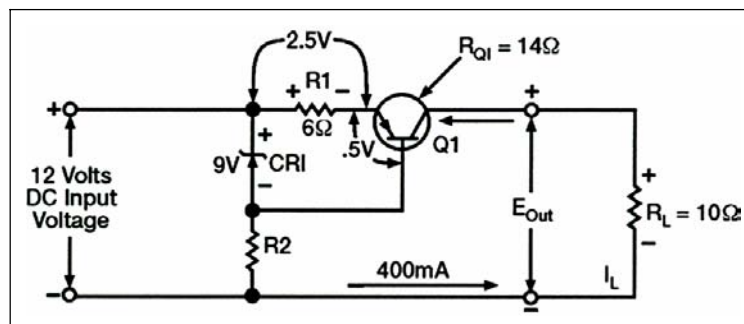

Figure 4-43. Current Voltage Regulator (With a Decrease in R_L)
4-119. Knowing about the basic current regulating circuitry will help you understand how the various components work to maintain the constant 400-milliampere output. Remember a decrease in load resistance causes a corresponding increase in current flow. Figure 4-43 shows that the load resistance R_L has dropped from 15 ohms to 10 ohms. This results in a larger voltage drop across R1 because of the increased current flow. The voltage drop has increased from 2.4 volts to 2.5 volts. Of course, the voltage drop across CR1 remains constant at 9 volts due to its regulating ability. Because of the increased voltage drop across R1, the forward bias on Q1 is now 0.5 volts. Since the forward bias of Q1 has decreased, the resistance of the transistor increases from 9 ohms to 14 ohms. Notice that the 5-ohm increase in resistance across the transistor corresponds to the 5-ohm decrease in the load resistance. Therefore, the total resistance around the outside loop of the circuit remains constant. Since the circuit is a current regulator, you know that output voltages will vary as the regulator maintains a constant current output. In Figure 4-43, the voltage output is reduced to 4 volts, which is computed by multiplying current (I) times resistance (R) ($400 \text{ mA} \times 10 \text{ ohms} = 4 \text{ volts}$).